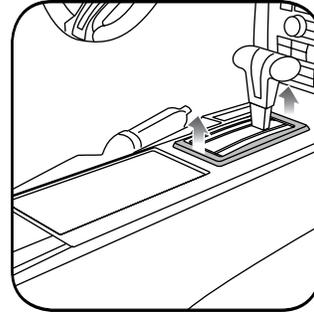
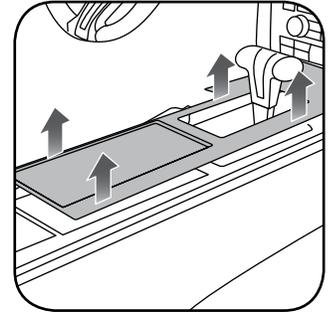

Fig. .1.1
Fig. 1.2
1. Remove the shifter cover, (Fig. 1.1) then carefully remove the center console cover. (Fig. 1.2)